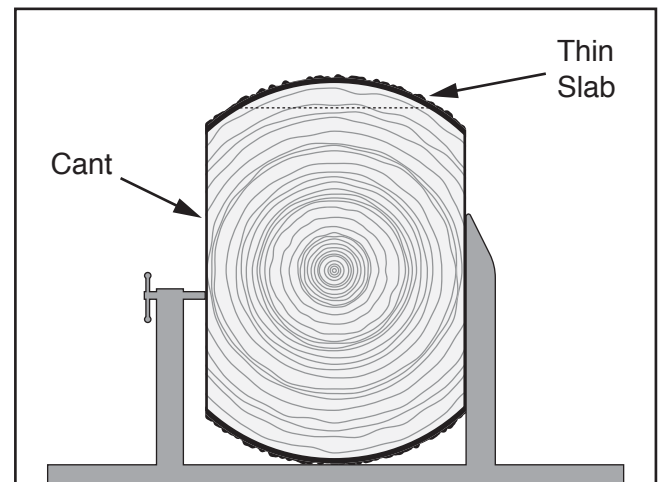

Figure 50. Thin slab to be removed from cant.
5. Rotate cant 90° and clamp to track bed, using log supports to ensure cant is perpendicular to track (see **Figure 50**). Take care that log clamp holds cant tight against supports.
6. Cut a thin slab and remove it from cant (see **Figure 50**). Discard slab.